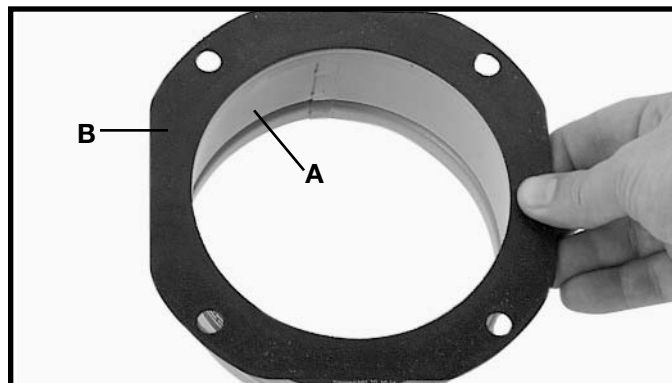

Fig. 5
1. Align the holes in the outtake flange (A) Fig. 5 with the holes in the outtake flange gasket (B).